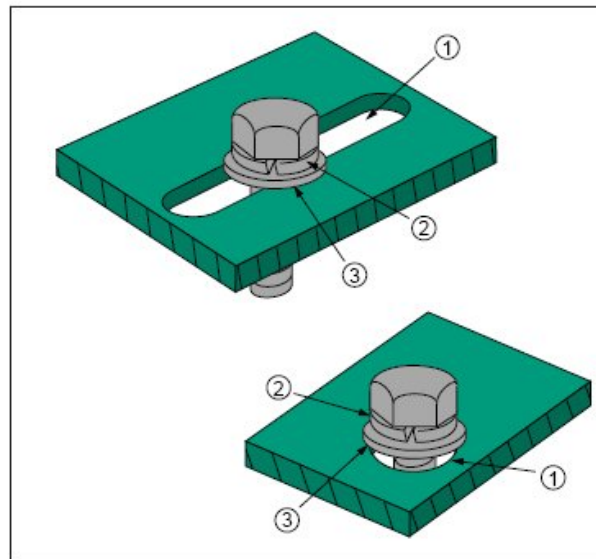

Figure 4-5
- Slot is covered with flat washer, Figure 4-5.
- Hole is covered with flat washer, Figure 4-5.